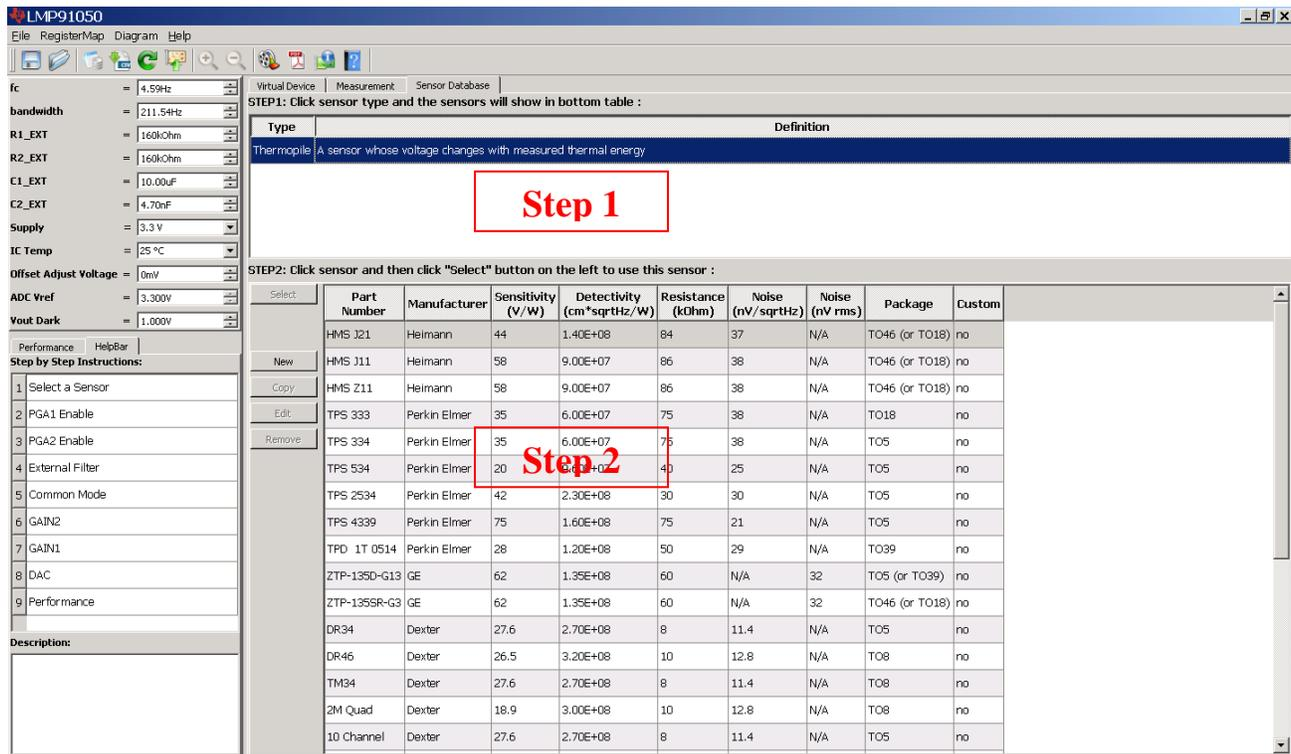

Figure 7 – Sensor Database Window
1. Step 1: Select a Sensor – Sensor Database window opens. See Figure 7. Step 1: Click sensor type (Thermopile) and the sensors will show in the bottom table. Step 2: Click sensor and then click “Select” button on the left to use this sensor.